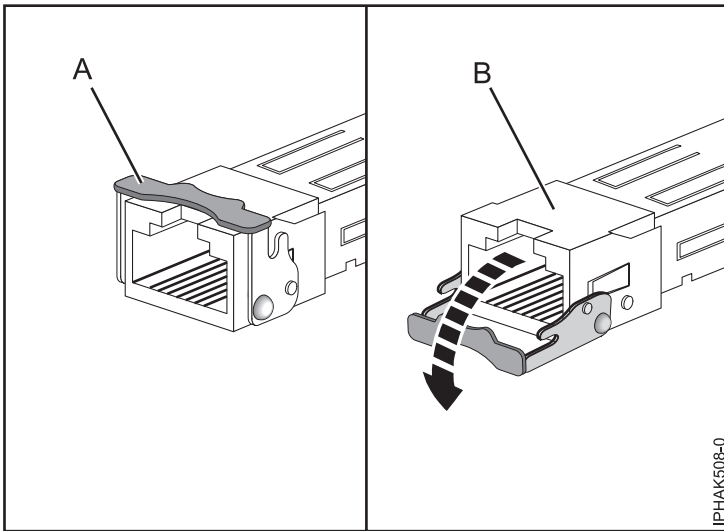

Figure 11. Removing SFP transceivers from adapters
Note: Some Ethernet or Fiber Channel adapter FRUs require the removal of the small form-factor pluggable (SFP) transceivers (if present) in order to remove the tailstock. With the card lying flat on a static-protective surface, open the latch (A) by rotating it down and away from the card as shown in Figure 11 on page 24. Slide the transceiver (B) out of the adapter hardware. Repeat for the other transceiver.